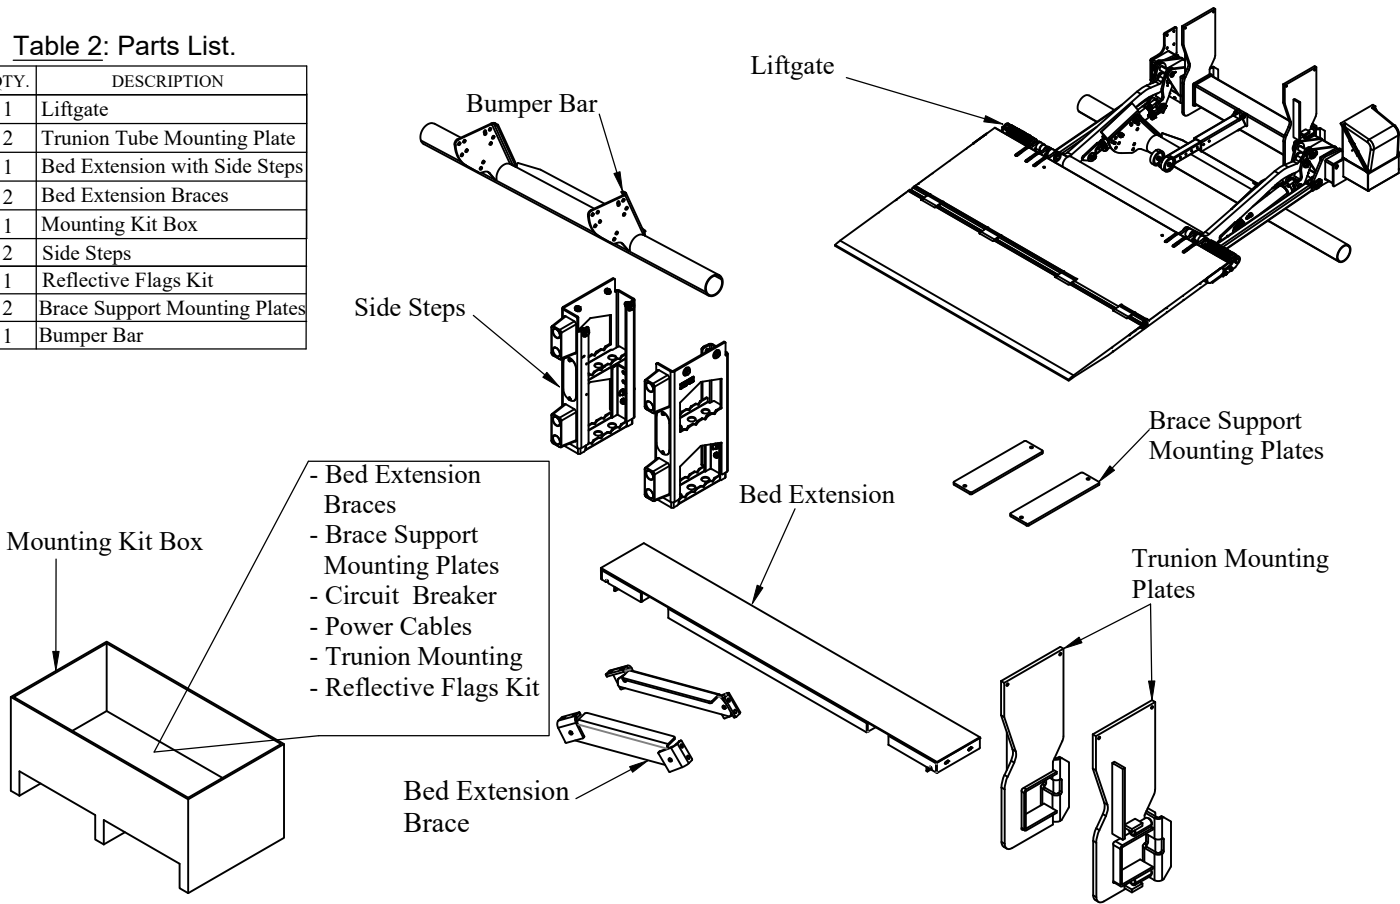

Figure 7: Part Identification.
2. Verify parts list (Table 2) and inspect for missing or damaged parts (Figure 7).